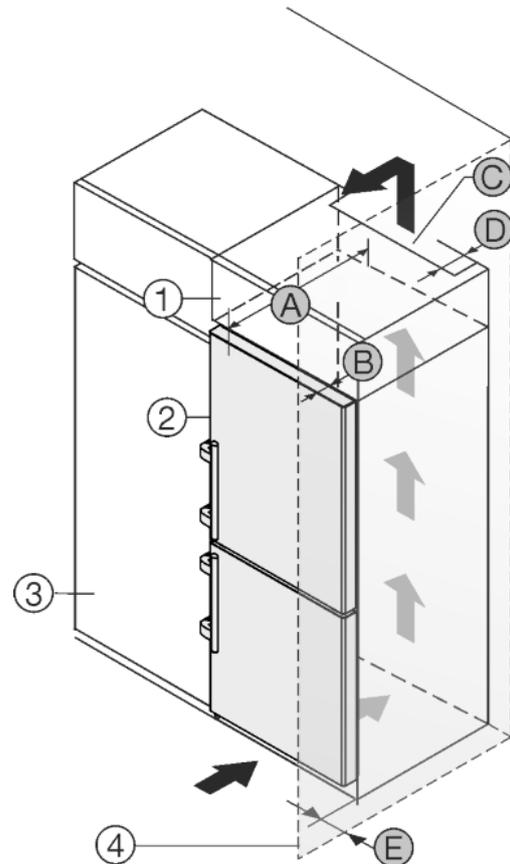

Fig. 13
The appliance can be built into kitchen units. A top cupboard *Fig. 13 (2)* can be added above the appliance in order to bring the appliance *Fig. 13 (1)* up to the height of the fitted kitchen units.
The appliance can be installed right next to the kitchen cabinet *Fig. 13 (3)*. The appliance must protrude by depth *Fig. 13 (B)* from the front of the cabinet so that the doors can be opened fully. The appliance may protrude further depending on the depth of the kitchen cabinets and whether wall spacers are used.
- At the back of the top cabinet, there must be an air outlet shaft with depth *Fig. 13 (D)*, spanning the entire width.
- The ventilation shaft *Fig. 13 (C)* must be observed under the ceiling.
If the appliance is installed with the hinges next to a wall *Fig. 13 (4)*, the distance *Fig. 13 (E)* between the appliance and the wall must be observed. This is how far the handle protrudes when the door is open.